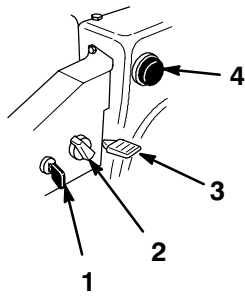

Figure 14
- **Ignition Switch** (Fig. 14)—Insert the key before starting the engine with the recoil starter. To stop the engine, remove the key.
- **Choke** (Fig. 14)—Rotate the choke to the *Full* choke position to start a cold engine. As engine warms up, move choke gradually to the *Off* position.
- **Throttle** (Fig. 14)—Move the throttle upward to increase engine speed and downward to decrease engine speed.
- **Primer** (Fig. 14)—Press the primer to pump a small amount of gasoline into the engine to improve cold-weather starting.
2. Remove the key from the ignition switch (Fig. 14).
3. Pull the choke knob off (Fig. 14).
- Move the speed shift control to the *N (Neutral)* position and the throttle (Fig. 14) to the *Fast* position.
- Rotate the choke (Fig. 14) to the *Full* position.
- Insert the ignition key (Fig. 14).
- Cover the hole in the center of the primer (Fig. 14) with your thumb and slowly push in the primer three times, pausing between each push.
- After the engine starts, immediately rotate the choke (Fig. 14) to the $3/4$ position. As the engine warms up, rotate the choke to the $1/2$ position. When the engine warms up sufficiently, rotate the choke to the *Off* position.